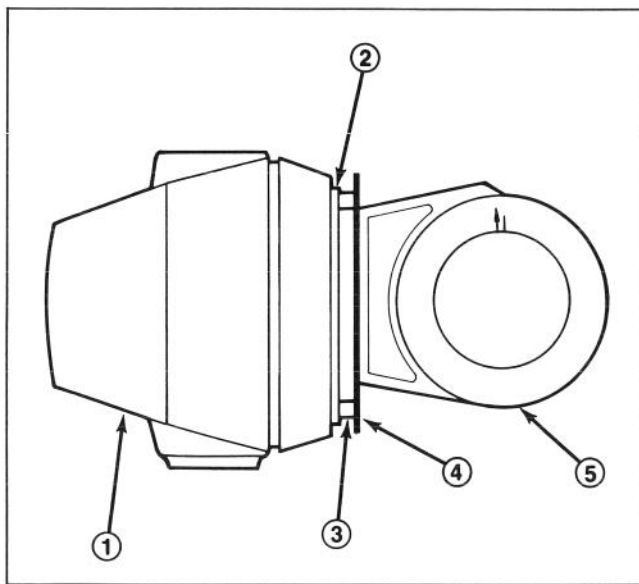

Figure 26
2. Use a flat piece of sheet metal large enough to fit over the three glass protrusions on the face of the headlights and place it over a headlight (Fig. 26).
3. Mount a magnetic protractor onto the plate (Fig. 26). Hold the assembly in place and carefully tilt the headlight downward 3 degrees (Fig. 26). Tighten the mounting nut.